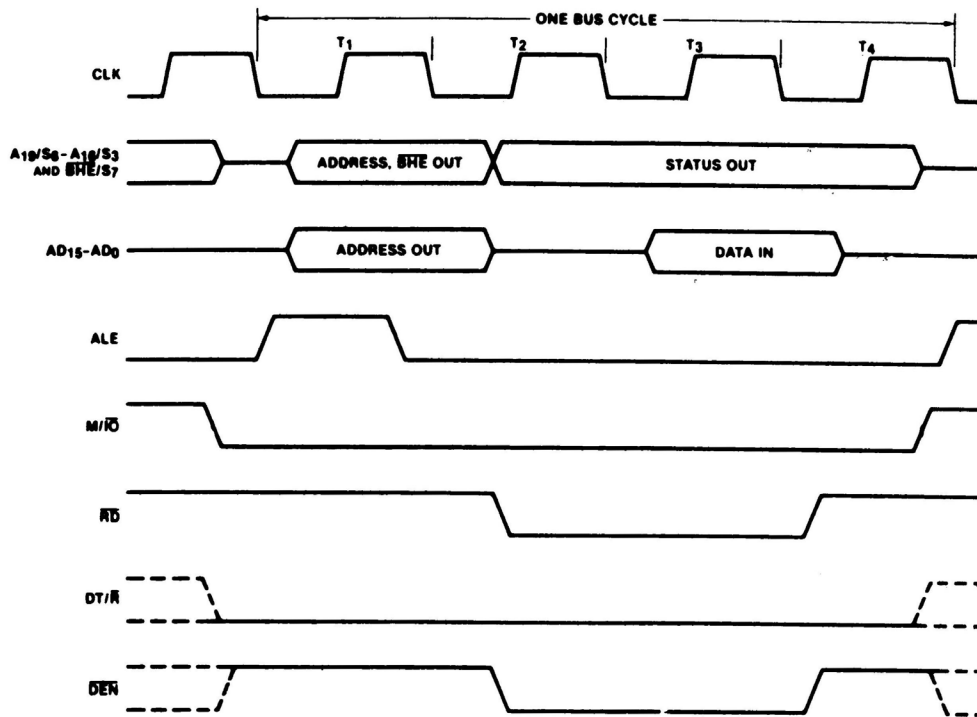

Figure 8-52 Input bus cycle of the 8086.
- All the timing signals in the I/O read and write bus cycles other than the \overline{MIO} are identical to those already described in the memory read/write bus cycle (See Figs. 8-52 and 8-53).